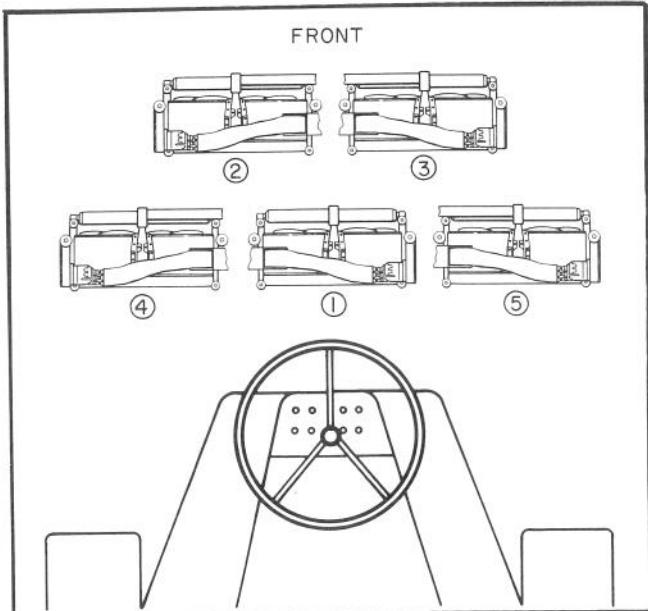

Figure 2
A. Refer to Figure 2 and layout all five cutting units on the floor in front of the 450-D. Position 3 R.H. (right hand) cutting units (all three are alike) as #1, #3 and #5. Position the left hand #2 and #4 cutting units also (both are alike).